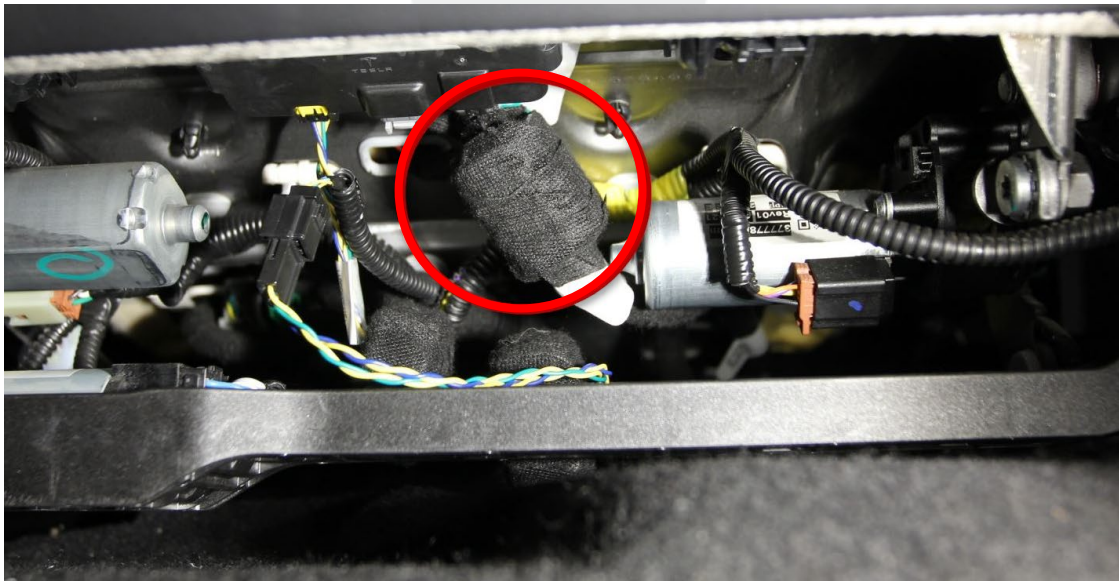

Figure 9
10. Completely wrap the ferrite with felt tape to prevent NVH issues (Figure 9).